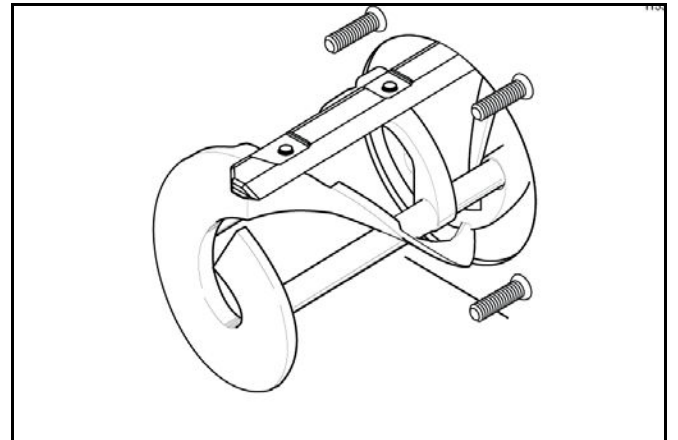

Figure 6-23
5. Holding the rear blade on the beater, slide it into the freezing cylinder halfway. Install the front scraper blade over the front holding pin. (See Figure 6-23.)